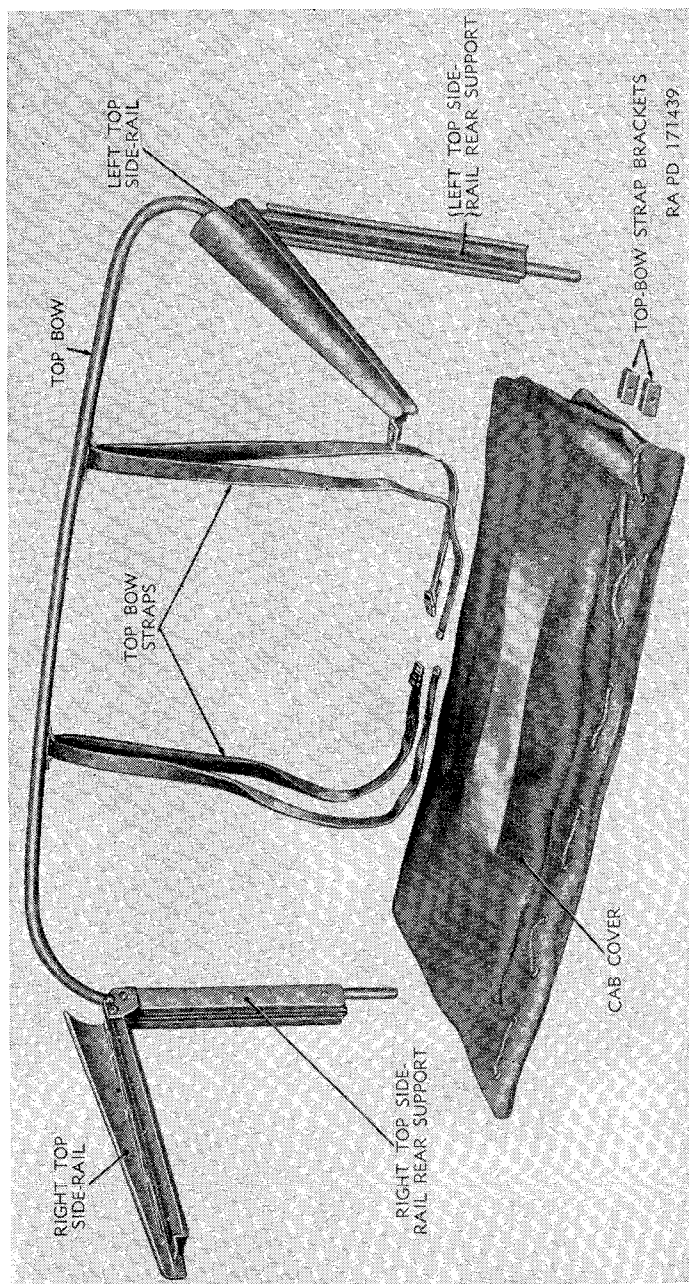

Figure 6. Items removed before installation of hard-top closure.
c. Remove cab cover (fig. 6). Untie lashing ropes from lashing hooks on back of cab. Disconnect cover at sides by pulling it away from side rails until metal retainers are disengaged from slots in side rails. Disconnect two straps from rear top bow to top-holding brackets on windshield frame and pull rear portion of cab cover up and out of metal retainers on rear supports. Fold cab cover forward and pull from right side of vehicle until cover is disengaged from the metal retainer on the front of the windshield top support rail.
d. Remove top side rails (fig. 6). Remove the cap screws from the front and rear of the right and left top side rails. Lift the side rails from the vehicle and discard.
e. Remove top-bow strap brackets (fig. 6). Remove the cap screw and lock washer which secure each of the brackets to the windshield. Remove the two brackets.
f. Remove top bow (fig. 6). Lift up on top bow, disengaging it from each of the top side-rail rear supports.
g. Remove top side-rail rear supports (figs. 6 and 9). Loosen the "J" bolts and "U" bolts located at the upper inside portions of the door-lock pillar. These bolts secure the tubular portion of the top side-rail rear supports. Lift the two supports from the body lower rear side panels.